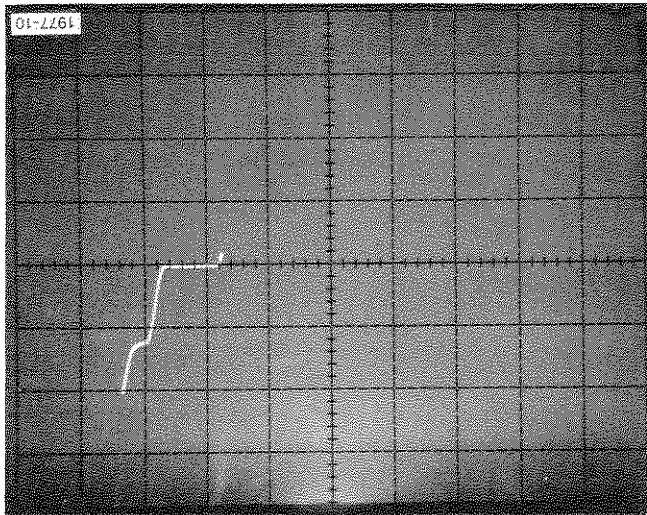

Fig. A-10. Display of output current sink.
- a. Turn the Variable Collector % control slowly clockwise until the display shows 2 divisions of vertical deflection (20 mA, see Fig. A-10). See the device specifications for minimum and maximum sink current ratings.